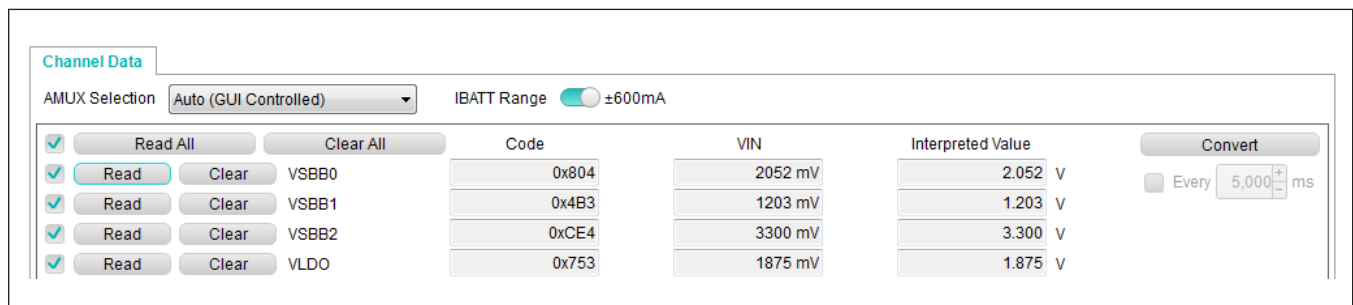

Figure 6. Quick Start: Regulator Check with the ADC
- 7) On the **AMUX/ADC** tab of the GUI, click the **Read** buttons next to VSBB0, VSBB1, VSBB2, and VLDO. For the MAX77650A, 2.05V, 1.2V, 3.3V, and 1.85V, respectively, appear (Figure 6). For the MAX77651B, 1.9V, 3.2V, 0V, and 0V, respectively, appear.